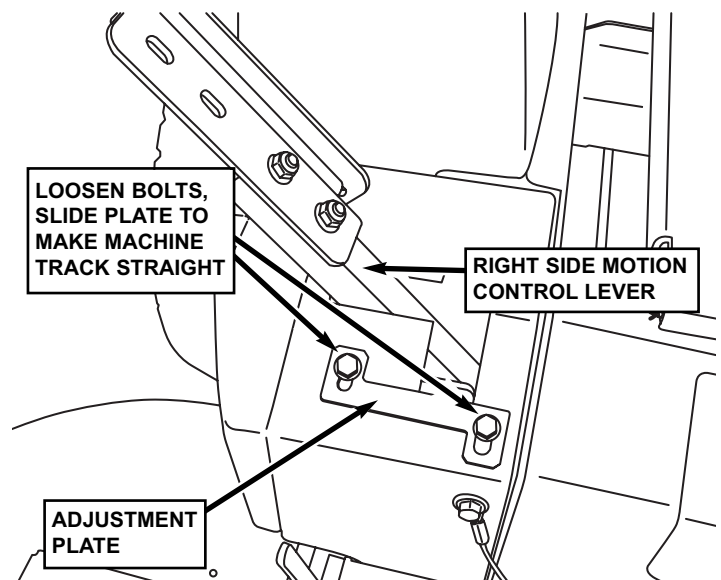

FIGURE 6
- D. If machine tracks to the left, loosen bolts that secure the right adjustment plate. Move plate rearward to slow the right wheel down. Retighten bolts. See Figure 6.